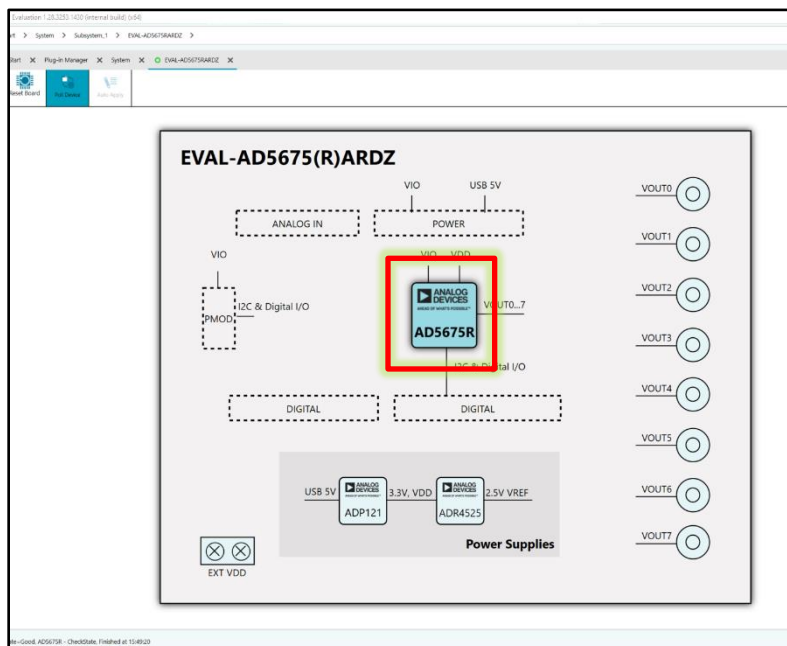

Figure 17
- Figure 17 will show up, double-click the AD5675R chip image.